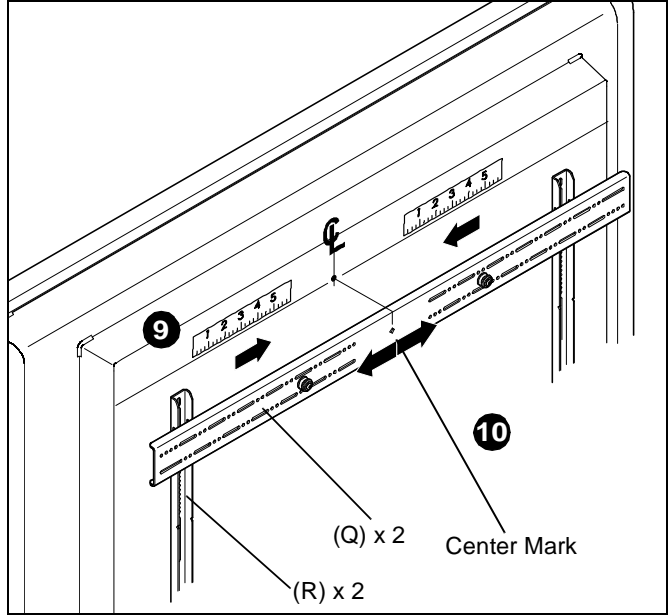
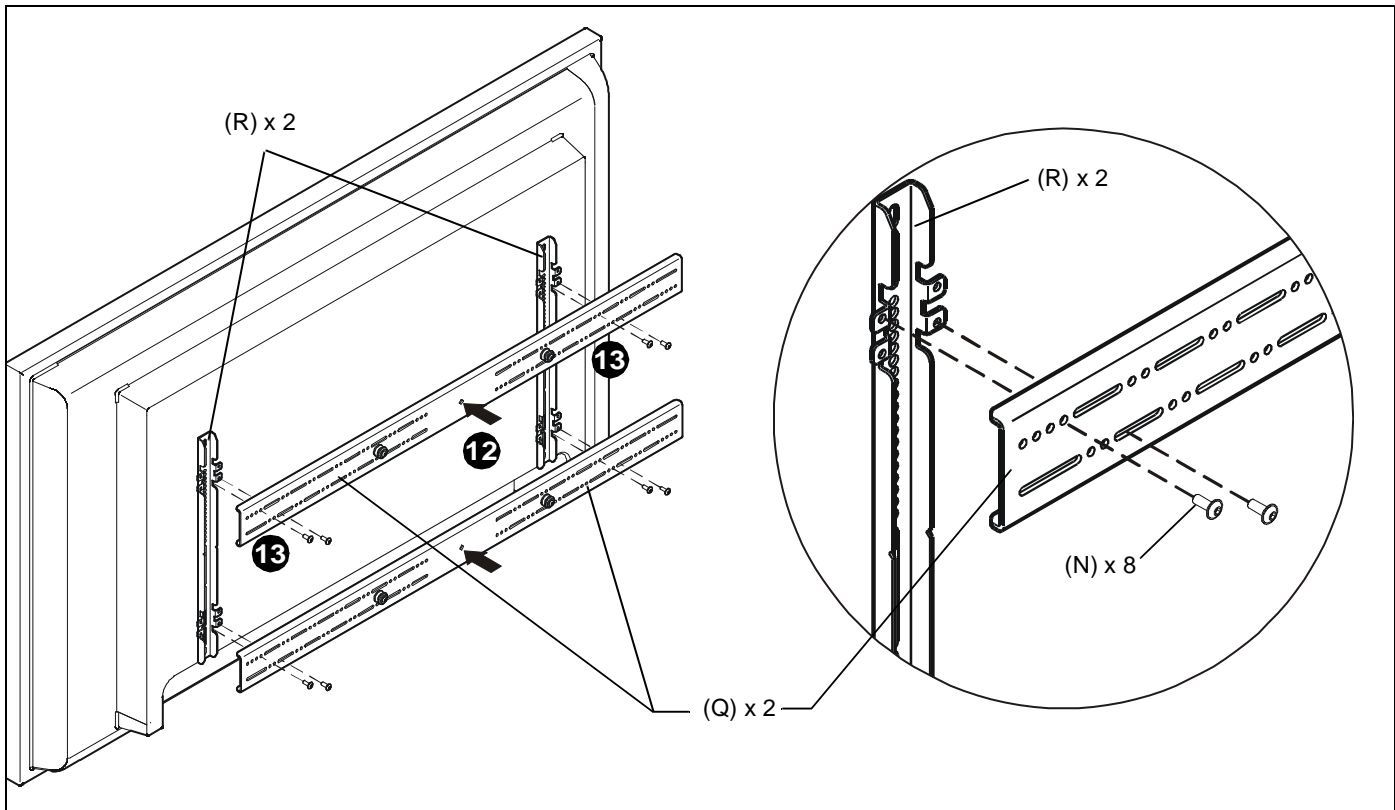

Figure 4
Figure 5
9. Determine and mark the horizontal center position between the Left and Right *TOP* mounting holes in display. (See Figure 4)
10. Determine and mark the horizontal center position between the Left and Right *BOTTOM* mounting holes in display. (See Figure 4)
11. Orient upper horizontal mounting bracket (Q) so that flanges are facing towards display and resting in recessed area of left and right vertical mounting brackets (R). (See Figure 4)
12. Adjust Upper horizontal mounting bracket (Q) position until center diamond in horizontal mounting bracket (U) aligns with mark made in Step 9, and mounting holes and slots in horizontal mounting bracket (Q) are aligned with threaded holes in mounting tabs of left and right vertical mounting brackets (R). (See Figure 4) and (See Figure 5)
13. Use 1/8" hex key (P) to secure upper horizontal mounting bracket (Q) to left and right vertical mounting brackets (R) using four button head flanged screws (N). (See Figure 5)
14. Repeat Steps 10 through 13 for lower horizontal mounting bracket (Q).
IMPORTANT ! : The orientation of, and mounting holes used, when installing the lower horizontal mounting bracket must be the same as the upper horizontal mounting bracket. Vertically align upper and lower brackets by aligning holes or end of slots. (See Figure 5)
IMPORTANT ! : Whenever possible install mounting screws diagonally as shown in detail in Figure 4 below.